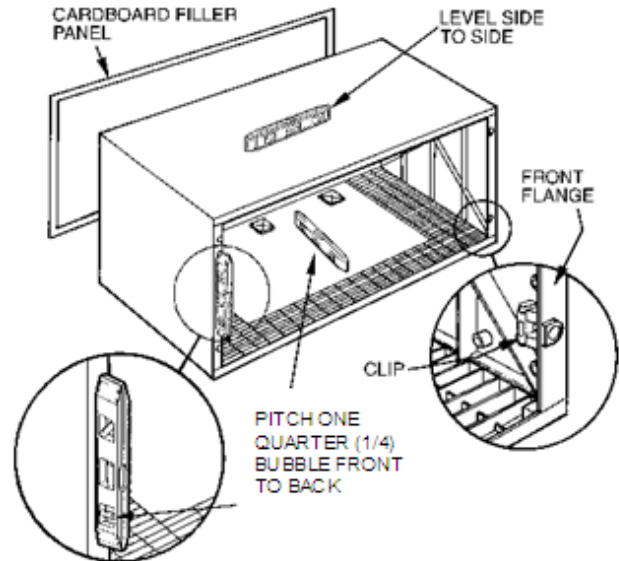

Fig. 1 — Wall Sleeve Installation
The wall sleeve is shipped separately from the air conditioner chassis. A cardboard filler panel on the rear of sleeve provides weather protection, and a cardboard center support provides needed support until the chassis and rear grille are installed. The chassis is secured with 4 screws into clips that are factory installed on the front flanges of the sleeve. See Fig. 1.
IMPORTANT: Sleeve must be mounted level side to side and a 1/4 bubble front to back. This will allow for proper condensate drainage. See Step 3. Do Not level on the ribbing, place level as shown in Fig 1.
2. Check for the correct amount of sleeve insertion into the room then fasten one side of sleeve to the wall using appropriate, field supplied fasteners. For proper condensate drainage, the sleeve should be level side to side and pitched one quarter bubble in a sight glass sloping to the outside (see Fig. 1).
IMPORTANT: Do not place the level on bottom panel rib sections or bottom panel of insulated sleeve. Insulated sleeve should be checked by placing a vertical level on the interior flange of the sleeve. Refer to Fig. 1.